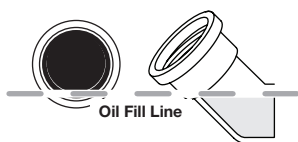

Fig. 13
5. Look into the oil fill hole (use a flashlight if needed). The oil should be just touching the innermost thread on the oil fill hole (Fig. 13). Repeat this procedure until the oil level reaches the innermost thread on the oil fill hole.